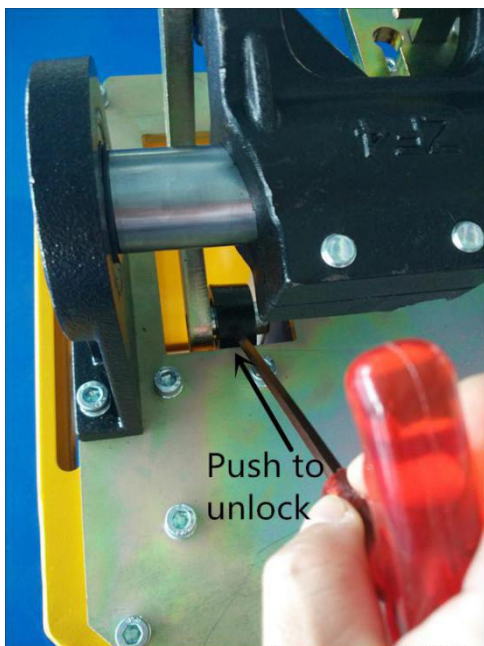

**Fig. 3.1**
- Adjust the position of the boom (horizontal position, as shown in **Fig. 3.1**).